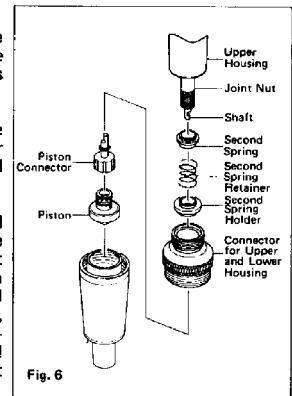

Fig. 6
B. Piston (Fig. 6)
6. Slip the second spring and its retainer and holder over the joint nut as shown in Fig. 6. Insert the piston joint arm into the connector for lower and upper housing, and connect the arm with the shaft.